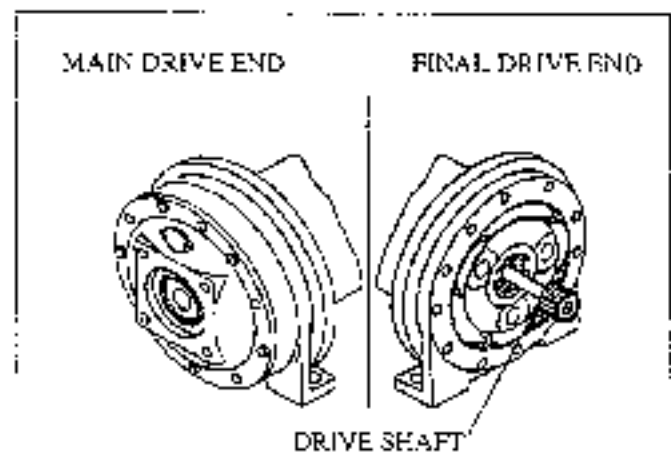

Figure 27
5. Install the drive shaft. See Figure 27.